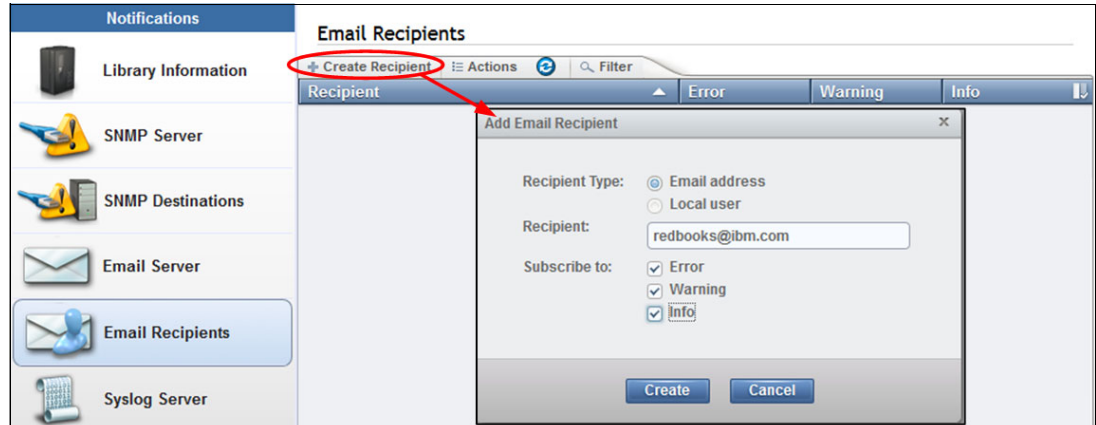

Figure 4-27 Email Recipients option
2. Then, select the **Create Recipient** tab, as shown in Figure 4-27.